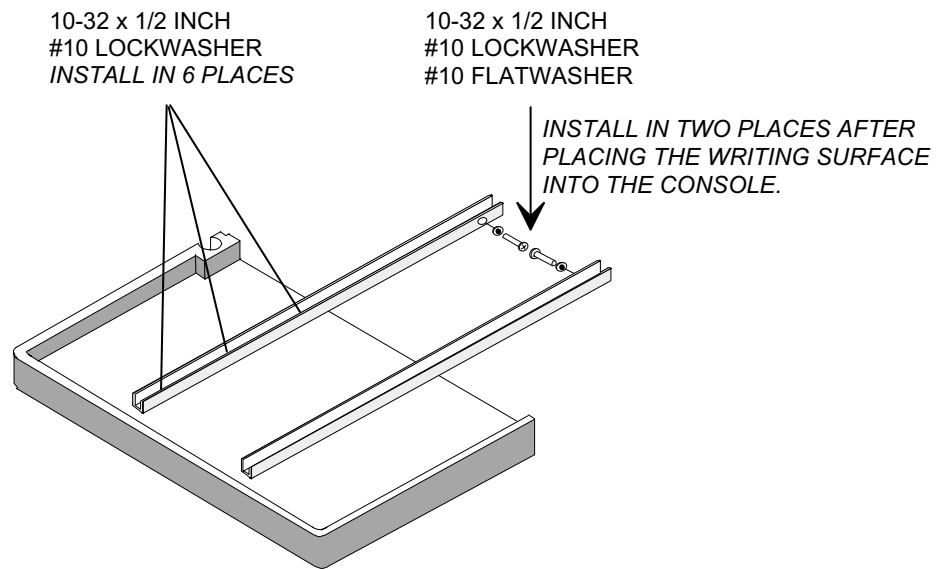

Figure 15-1. Console Table
- Step 4.** Attach the mounting rails to the table as shown in Figure 15-1.